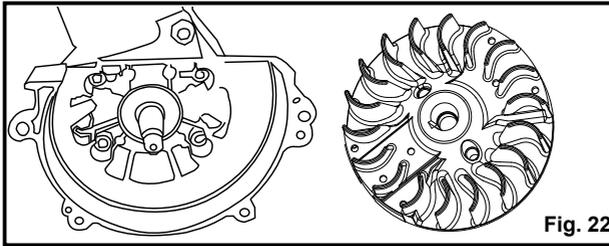

Fig. 22
- Check the woodruff key is in good condition and installed into place. Examine it for signs of damage. Check if the rotor magnets meet the requirements. Check that the fins are in good condition. Replace with a new flywheel if necessary (Fig. 22).